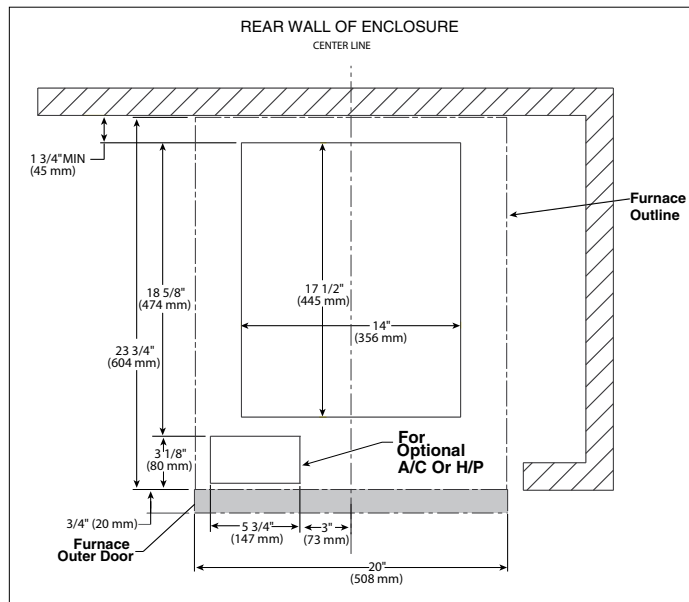

Figure 3. Floor Openings.
1. After meeting all requirements from the furnace installation instructions, mark floor opening(s) as shown in Figure 3.